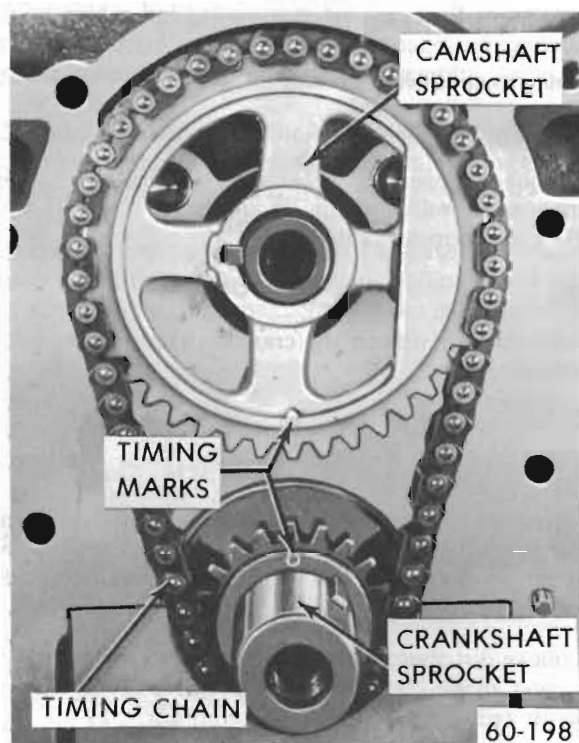

Figure 60-111 - Installation of Timing Chain and Sprocket - 350 Cu. In.
1. With timing chain cover removed (subpar. a above) temporarily install crankshaft pulley bolt and washer in end of crankshaft. Turn crankshaft so sprockets are positioned as shown in Figure 60-111. Remove harmonic balancer bolt and washer using a sharp blow on the wrench handle, so that the bolt can be started out without changing position of sprockets.
3. Assemble timing chain on sprockets and slide the sprocket and chain assembly on the shafts with the timing marks in their closest together position and in line with the sprocket hubs. See Figure 60-111.